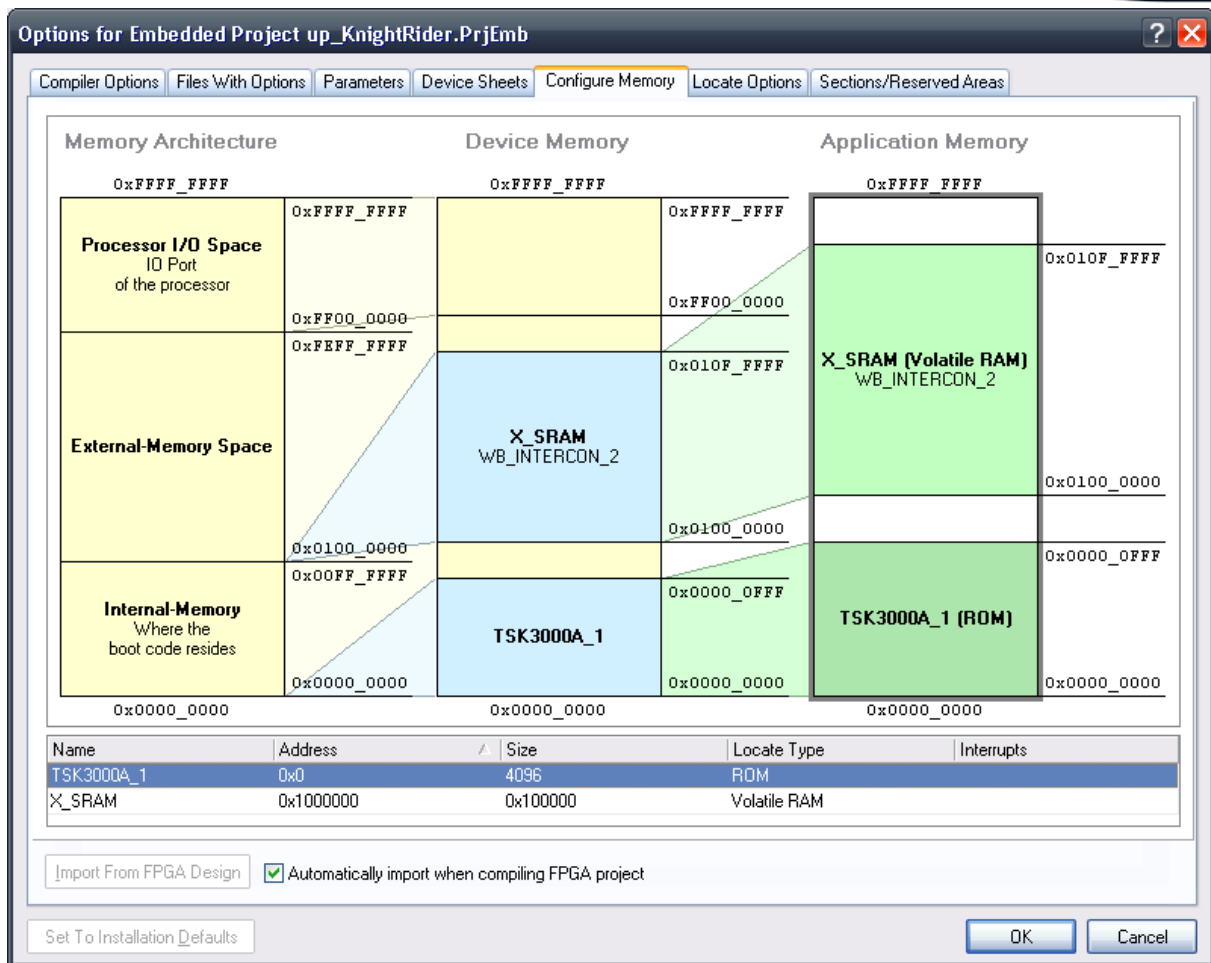
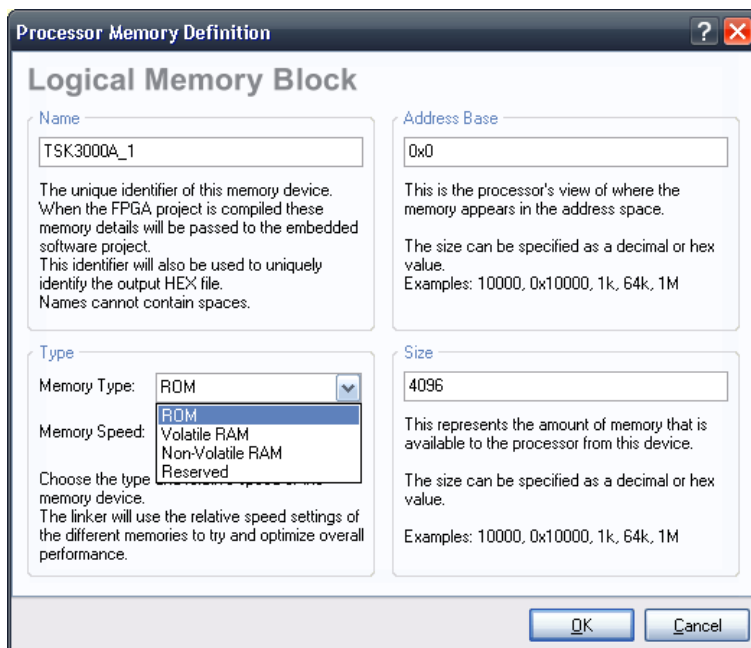

Figure 15. Embedded project memory map.
Figure 16. Setting the boot memory to Memory Type: ROM.
41. Right-click on the `uP_KnightRider.PrjEmb` embedded project, and click **Project Options**. Click on the **Configure Memory** tab – you can see that the memory map defined in hardware has been automatically imported into the embedded project. (Refer to Figure 15).
42. Double-click on the TSK3000A_1 row in the memory table (see Figure 15) and configure the memory as ROM instead of Non-Volatile RAM (see Figure 16). This forces code we will add later to boot from the TSK3000A internal memory automatically. Click OK twice to apply the changes.